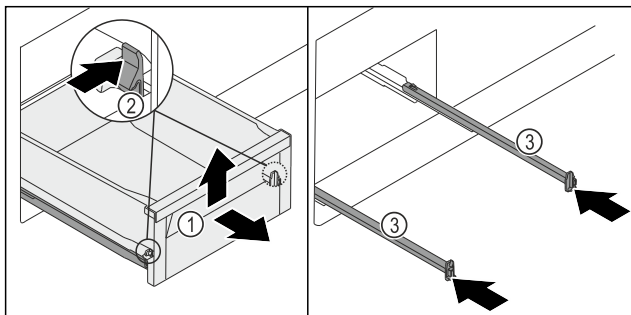

Fig. 258
- Pull the drawer Fig. 258 (1) out as far as it will go.
- Press the left and right clamp Fig. 258 (2) inwards at the same time.
- Drawer Fig. 258 (1) detaches from the rails.
- Lift up the drawer Fig. 258 (1) forwards.
- Remove the drawer Fig. 258 (1) forwards.
- Push in the rails Fig. 258 (3).